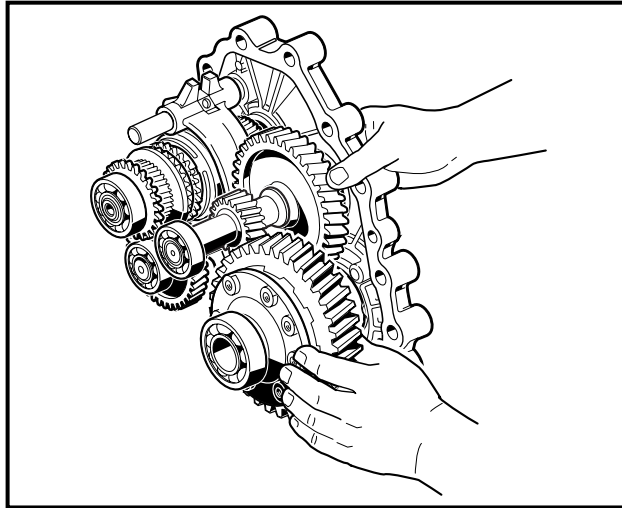

Figure 6-6 Loosen Gears
7. Turn the case section containing the gearing on edge (**Figure 6-6, Page 6-5**). While holding it in this position, gently rock all the gear assemblies to slightly loosen them in their seating. **See following CAUTION.**